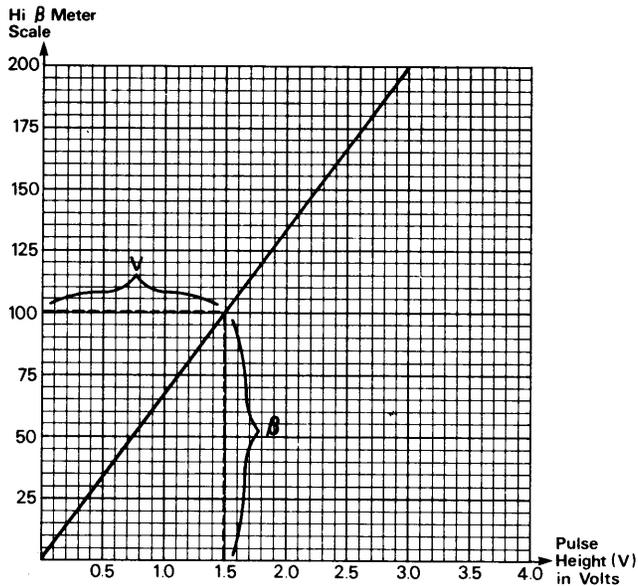

Fig. 11. Hi  $\beta$  calibration chart.
- Using graph in Fig. 11, find the pulse height (V) (recorded in step 5), on the horizontal axis. Extend a vertical line from that point. The intersection of that line with the diagonal line when projected on the vertical axis should be the required "HI  $\beta$ " scale reading. Record this value "HI  $\beta$  CAL." If another value is on the "HI  $\beta$ " scale, unplug the Model 530 and remove the bottom panel to expose the printed circuit board. (Do not remove or upset test transistor connections and Model 530 control settings).
- Plug the Model 530 into the power source. Turn TRANSISTOR BETA/FET  $g_m$  switch (9) to the